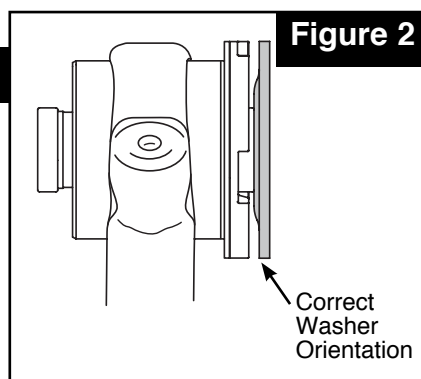

Figure 2
8. Remove nut and washer from arm-to-frame mounting bolt and remove bolt and arm. Discard both OE washers. Place one supplied offset washer onto head of arm-to-frame bolt. When installed, offset washer flange should be away from bushing flange, see Figure 2.
9. Install SPC control arm using OE arm-to-frame bolt. Place second supplied offset washer over protruding end of bolt. Again, be sure that the offset washer flanges are installed away from bushing flange, see Figure 2.